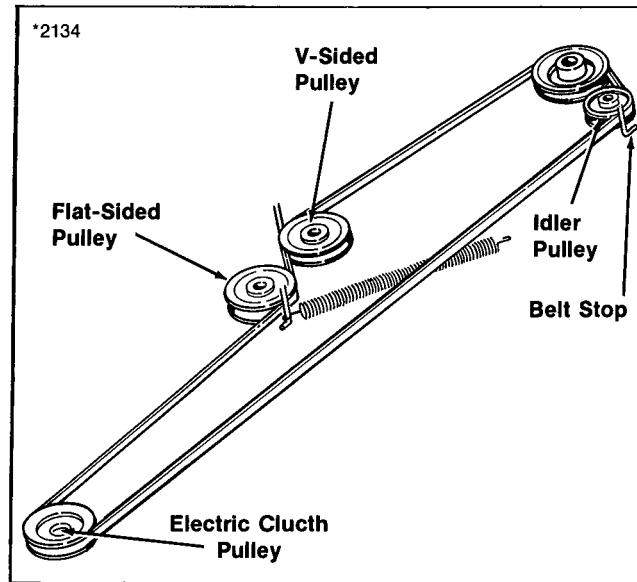

Figure 22. Drive Belt
11. Lock parking brake to position idler pulley bracket. Install new belt to idler pulleys. Make sure belt is properly routed on flat and V-sided pulleys. Refer to figure 22. Install washers and flange whiz nuts securing pulleys.